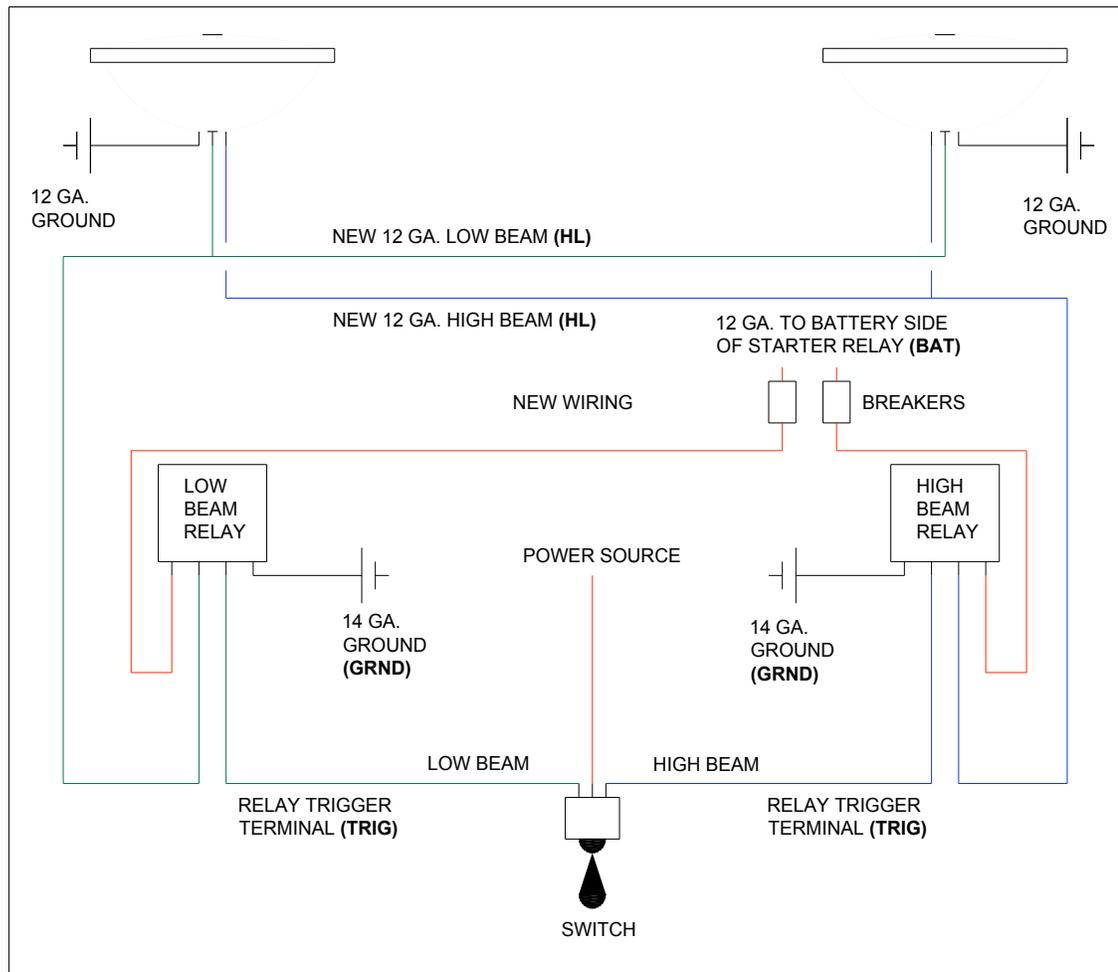

Figure 2.
- 4) Following the schematic in figure 2 and cutting the harness wires to length as you go,